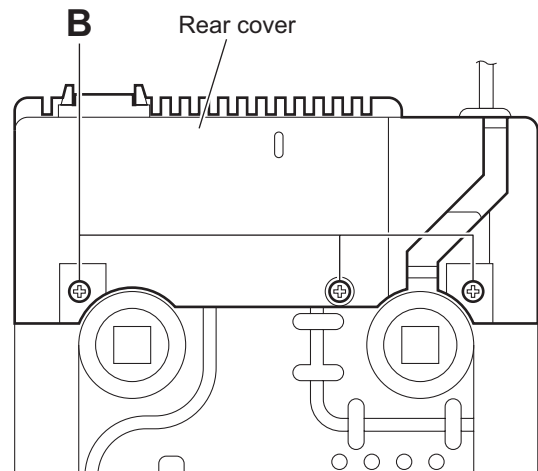

Fig.2
- (2) From the bottom side of the main body, remove the three screws **B** attaching the rear cover. (See Fig.2.)
- (3) Remove the rear cover from the main body.